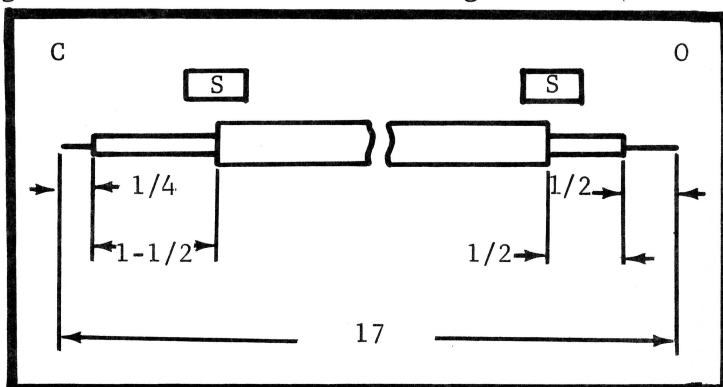

FIGURE 6. Dimensions for Cable #2 for Resistance Programing. Dimensions are in inches.
c. Prepare the 17-inch cable #2 as shown in Figure 6.
2. Cut off 1/4 inch of shield and insulation from end C, leaving bare 1/4 inch of wire. Also, cut off 1-1/2 inches of only the outer insulation. Comb out the shield and wrap together. Put 3/4 inch of shrink tubing over the end as shown in Figure 6.
3. From end O, cut off 1/2 inch of both the outer insulation and the shield. Also, cut off 1/2 inch of only the outer insulation. Put 3/4 inch of shrink tubing over the end as shown in Figure 6.